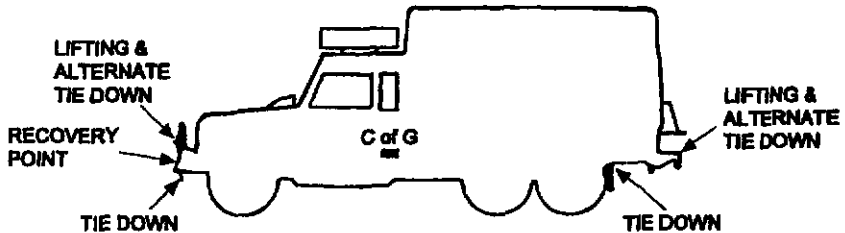

Figure 1-3 Slings and Tie-Down Points
35. Slings and tie-down points are illustrated in Fig. 1-3.